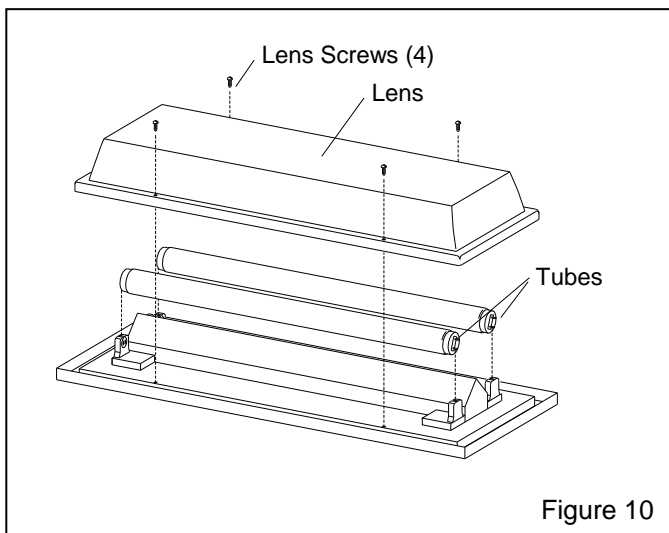

Figure 10
7.6.3.2 Flip the assembly over to access the lens screws, ref. Figure 10.